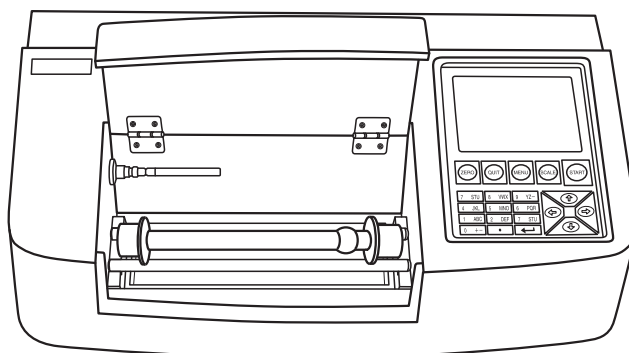

Fig.15-4
(2) Measuring a Sample
- a) Place a observation tube filled with a sample in the sampling chamber, then close the sample chamber cover (Fig.15-4).